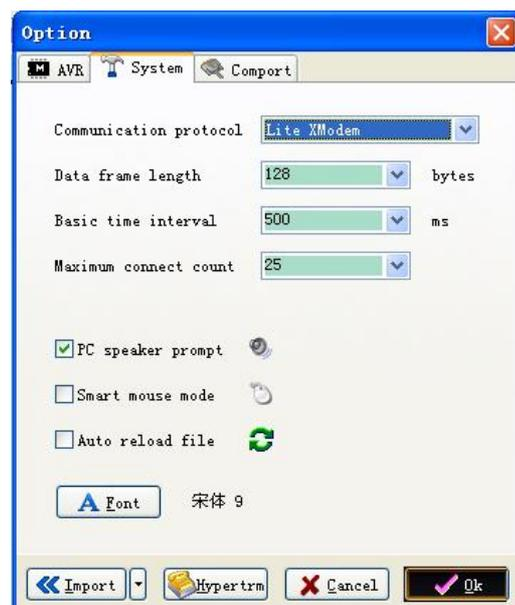

Fig. 4
- 4) Change settings on tab “System” as per Fig. 4. Communications protocol should be set to “Lite Xmodem”. Increase “Maximum connection count” to 50 or 100. This will make connection easier.